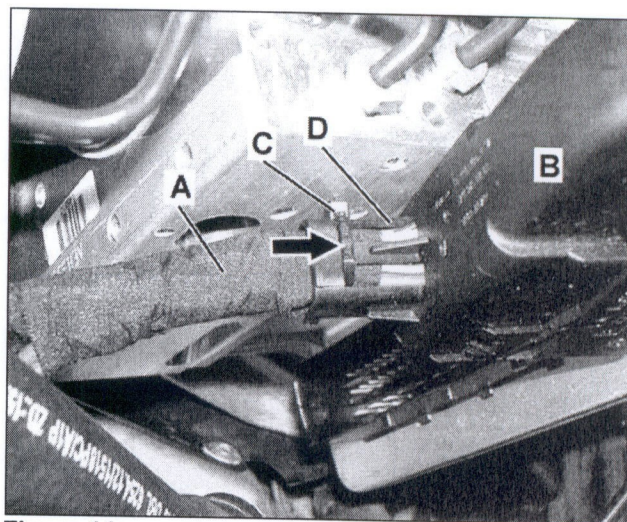

Figure 14
20. Secure the SBC wiring harness (A, Figure 14) (**excluding** ground wiring harness) to the SBC connector cover harness receptacle (D) using a new cable tie (arrow).